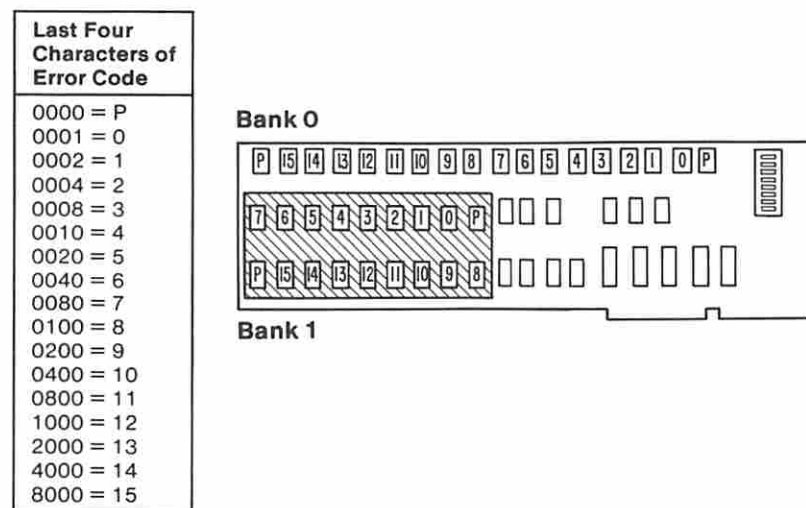

Figure 27. 128/640 Memory Expansion Option
- Refer to Figure 27 and find the failing memory module identified by the error code.